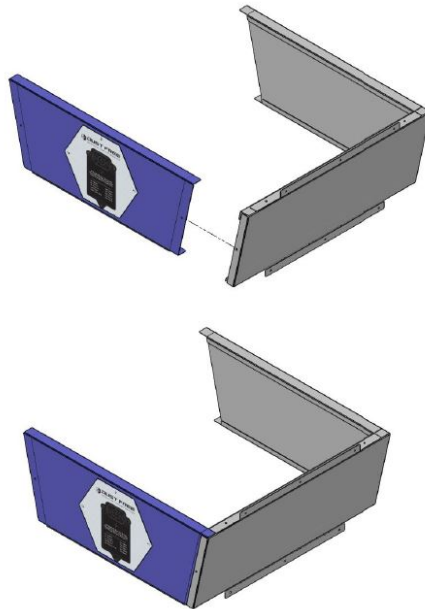

Figure 5: Remaining side and rear panel alignment and assembly.
5. Align and insert the remaining side panel into the rear panel inside the flange as depicted in Figure 5.
4. Align and insert the remaining side panel into the rear panel, inside the flange as depicted in Figure 5.